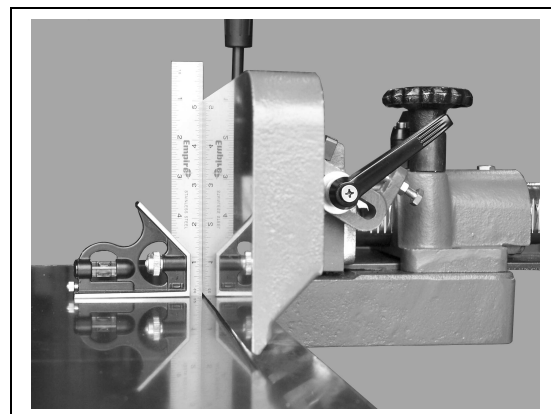

Figure 9
1. Lay a square on the infeed table as shown in Figure 9.